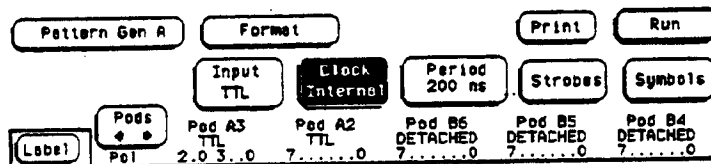

Figure 3-3. Clock Field
- d. In the Format screen, touch **Clock** field and set to Internal as shown in figure 3-3.